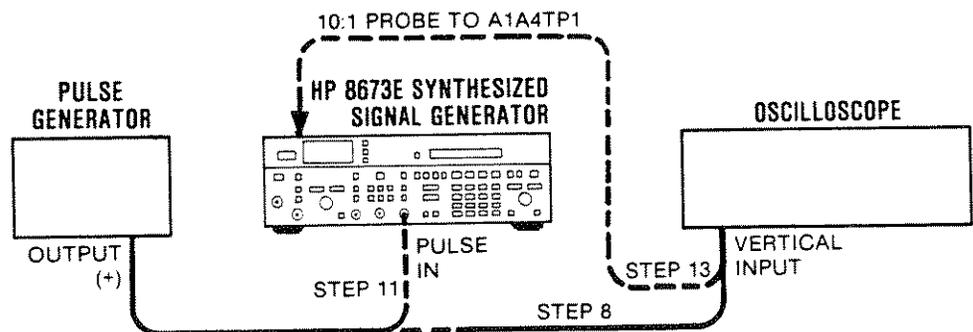

Figure 5-32. Series Pulse Width Adjustment Test Setup
8. Connect the equipment as shown in Figure 5-32.